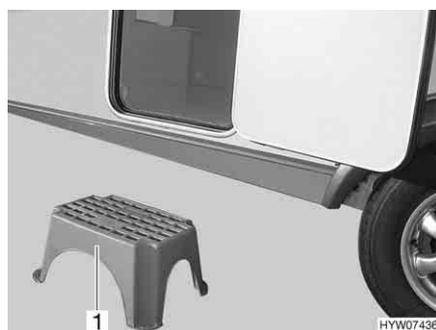

Fig. 21 Entrance step (free-standing)
- Place the entrance step (Fig. 21,1) in front of the entrance to the caravan.